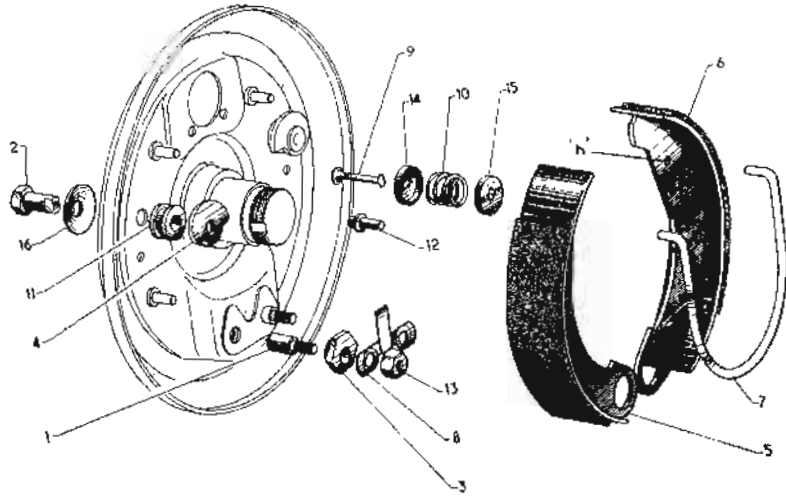

FIG. 39 REAR DRUM BRAKES.
Remove the split pins if fitted, eccentric locking nuts (13), fig 10 and lock washer (8). The 'U' spring can then be removed, with a screwdriver, older cars have a conventional coil spring to return the shoes. Old type shoes can be fitted to the later vehicles provided the holes 'h' fig. 39 are drilled out to take the ends of the 'U' spring.